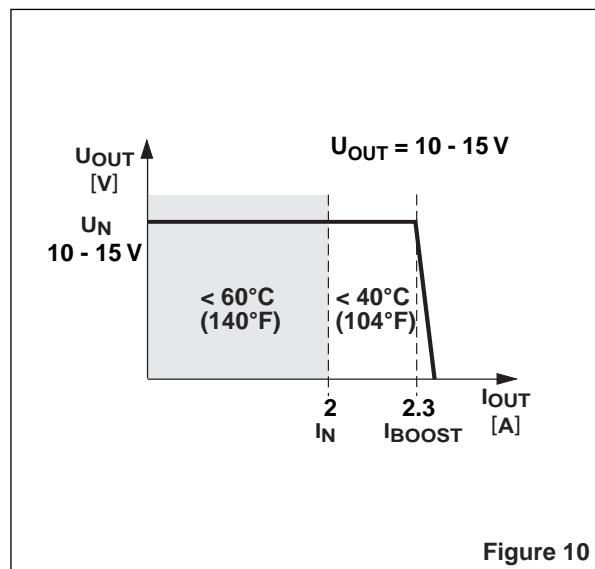

Figure 10
**7.1. Output Characteristic Curve (Figure 10).**
With high loads, the working point demonstrates the U/I characteristic curve shown in Figure 10.